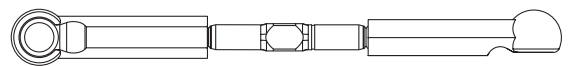

Figure 15B
1. Thread a plastic Rod End (45) onto each end of a 1-5/8" Turnbuckle (46). Tighten both Rod Ends equally until the Tierod is the same length as the Rod in Figure 15B. Make two of these camber link assemblies.
1. Place a "Foam Thing" (47) over the Ball Studs (10) in each of the Spindle Carriers (33), (34). Next, attach one side of a camber link assembly (Figure 15B) to the Ball Stud (26) on the left side of the Bulkhead. Attach the other side of the camber link assembly to the Ball Stud in the Spindle Carrier.